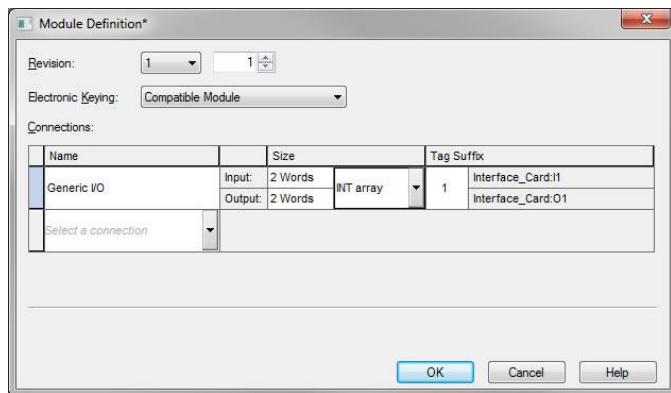

Figure 23: AOP Generic I/O Module Definition
- 3) Configure the Generic I/O connection. Refer to Figure 23.